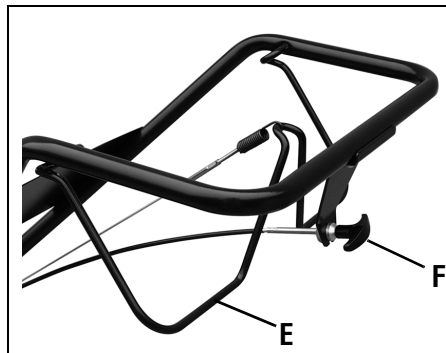

Figure 3-4: All models have a Forward Clutch Bail (E). Only Model 634A have a Reverse Clutch Control (F).
The Forward Clutch Bail (E, Figure 3-4) controls the engagement of forward drive to the wheels and tines.
2. Lift and hold the clutch bail (E, Figure 3-4) against the handlebar to start the wheels and tines rotating in a forward direction.
The Reverse Clutch Control (F, Figure 3-4) controls the engagement of reverse drive to the wheels and tines. **The reversing feature is used for maneuvering the tiller only — never engage the tines in the ground while operating in reverse.**
3. Lift the handlebar until the tines clear the ground, look behind you to avoid any obstacles, and then pull the control knob (F, Figure 3-4) out. The wheels and tines will rotate in a reverse direction.